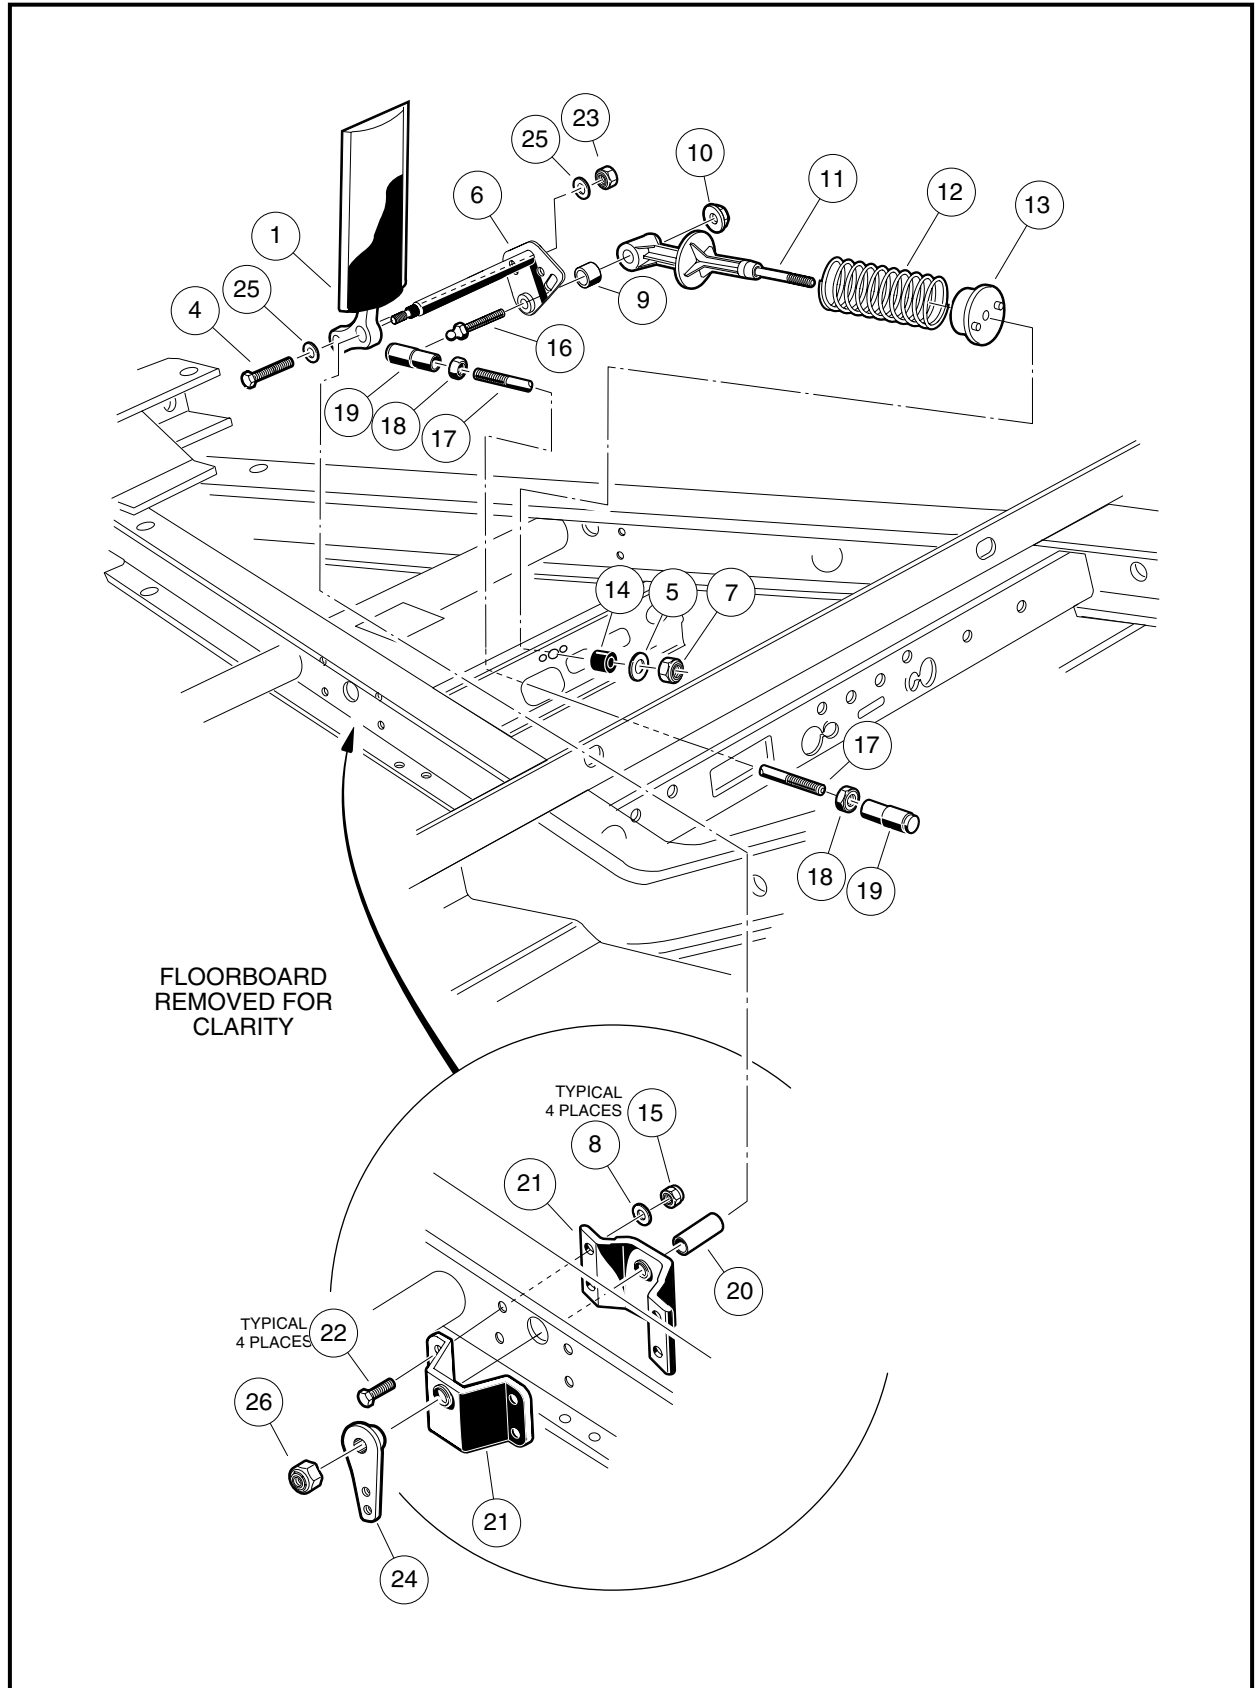

Figure 5-11 Accelerator Pedal Assembly
5. Using a 9/16-inch socket and 9/16-inch wrench, remove the nut (23), two washers (25), and bolt (4) securing the accelerator pedal (1) to the pivot rod (6) (**Figure 5-11, Page 5-10**).
6. Disconnect the accelerator rod assembly (17, 18 and 19) (**Figure 5-11, Page 5-10**) at the front and rear ball studs and remove it from the vehicle.
7. Remove the nut (10) and ball stud (16) from the accelerator pivot rod (6) and spring retainer (11) assembly.
8. Slide the spring retainer (11) off of the accelerator pivot rod boss (**Figure 5-11, Page 5-10**).
9. Inspect the pivot support bearing (9), inside the spring retainer, for wear and replace if necessary.
10. Remove lock nut (26) from the accelerator pivot shaft.
11. Move the brake pedal slightly and then slide the spacer (24) toward end of accelerator pivot rod, releasing the splined fit between the two. Rotate the spacer (24) and remove from the pivot rod (6) (**Figure 5-11, Page 5-10**).
12. Loosen, but do not remove, the four bolts (22) and lock nuts (15) to make removal of the pivot rod easier.
13. Slide the pivot rod (6) from the accelerator pivot rod supports (21), nylon spacer (20), and accelerator (1). Remove both the pivot rod (6) and the accelerator pedal (1) from the vehicle.
14. Inspect the accelerator pivot rod support bearings (21) for wear or damage and replace as necessary (**Figure 5-11, Page 5-10**).
1. If the accelerator pivot rod supports were replaced, position the supports (21) on the vehicle frame and loosely install the four bolts (22), flat washers (8), and lock nuts (15) and finger tighten (**Figure 5-11, Page 5-10**).
2. With the assistance of an additional person, position the accelerator (1) through the floor board and slide the accelerator pivot rod (6) through the upper hole in the pedal, through the nylon spacer (20), and through the two pivot rod supports (21).
3. Tighten the four bolts (22) (**Figure 5-11, Page 5-10**) attaching the pivot rod supports to the frame to 75 in-lb (8.5 N·m).
4. Install the spacer (24), aligning the splined area in both parts, and attach the nylon lock nut (26). Tighten the nut to 18 ft-lb (24.5 N·m).
5. Insert bolt (4) through a washer (25) and through the lower hole in the pedal, then through the adjacent slotted hole in the pivot rod (6). Attach the remaining washer (25) and nut (23). Finger tighten nut. **See Accelerator Pedal Adjustment on page 5-7.**
6. Insert pivot support bearing (9) into spring retainer (11) and onto the boss of the pivot rod plate.
7. Install the ball stud bolt (16) through the pivot rod (6) and pivot support bearing (9). Secure these parts with nut (10) (**Figure 5-11, Page 5-10**). Tighten nut to 50 in-lb (5.5 N·m).
8. Install the accelerator rod assembly (17, 18 and 19) (**Figure 5-11, Page 5-10**).
1. Measure the distance from the top of the accelerator pedal to the floorboard. If the distance is within the range of 5-3/4 inches  $\pm$  1/4 inch (14.6 cm  $\pm$  6mm) (**Figure 5-7, Page 5-8**), adjusting the accelerator pedal is not necessary. If adjustment is not necessary, check to make sure the nylon locknut (23) is tightened to 26 ft-lb (35.3 N·m) (**Figure 5-11, Page 5-10**) and proceed to step 8. If adjustment is necessary, proceed to step 2.
- 8.2. Loosen the jam nuts (18) and disconnect the accelerator rod (17) at the accelerator pedal (**Figure 5-11, Page 5-10**). Adjust the length of the rod so that the indicated cam edge is parallel with the edge of the electrical component box as shown (**Figure 5-10, Page 5-9**). See following **CAUTION**.
- 8.3. Reconnect the accelerator rod at the accelerator pedal (**Figure 5-11, Page 5-10**).